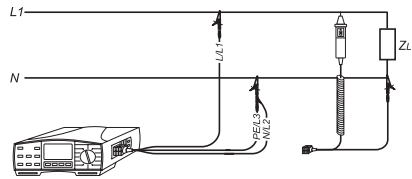

Figure 100: Connection of Test Leads
- ▶ Connect the desired test lead to the 4-pole test connector (17) of the UNITEST EUROtest. Either connect the 3-pole test lead or COMMANDER 2 (available as accessory No. 1223), please refer to Figure 100.
- ▶ Switch on the UNITEST EUROtest using the key 'ON/OFF'. Turn the rotary switch 'Measurement Function' to the function (7) HARMONICS.
- ▶ Connect the test leads in accordance with Figure 100. If desired, this connection information can directly be retrieved on the measurement instrument using the key 'HELP'. Repeated pressing of the key 'HELP' indicates the various options for connection.